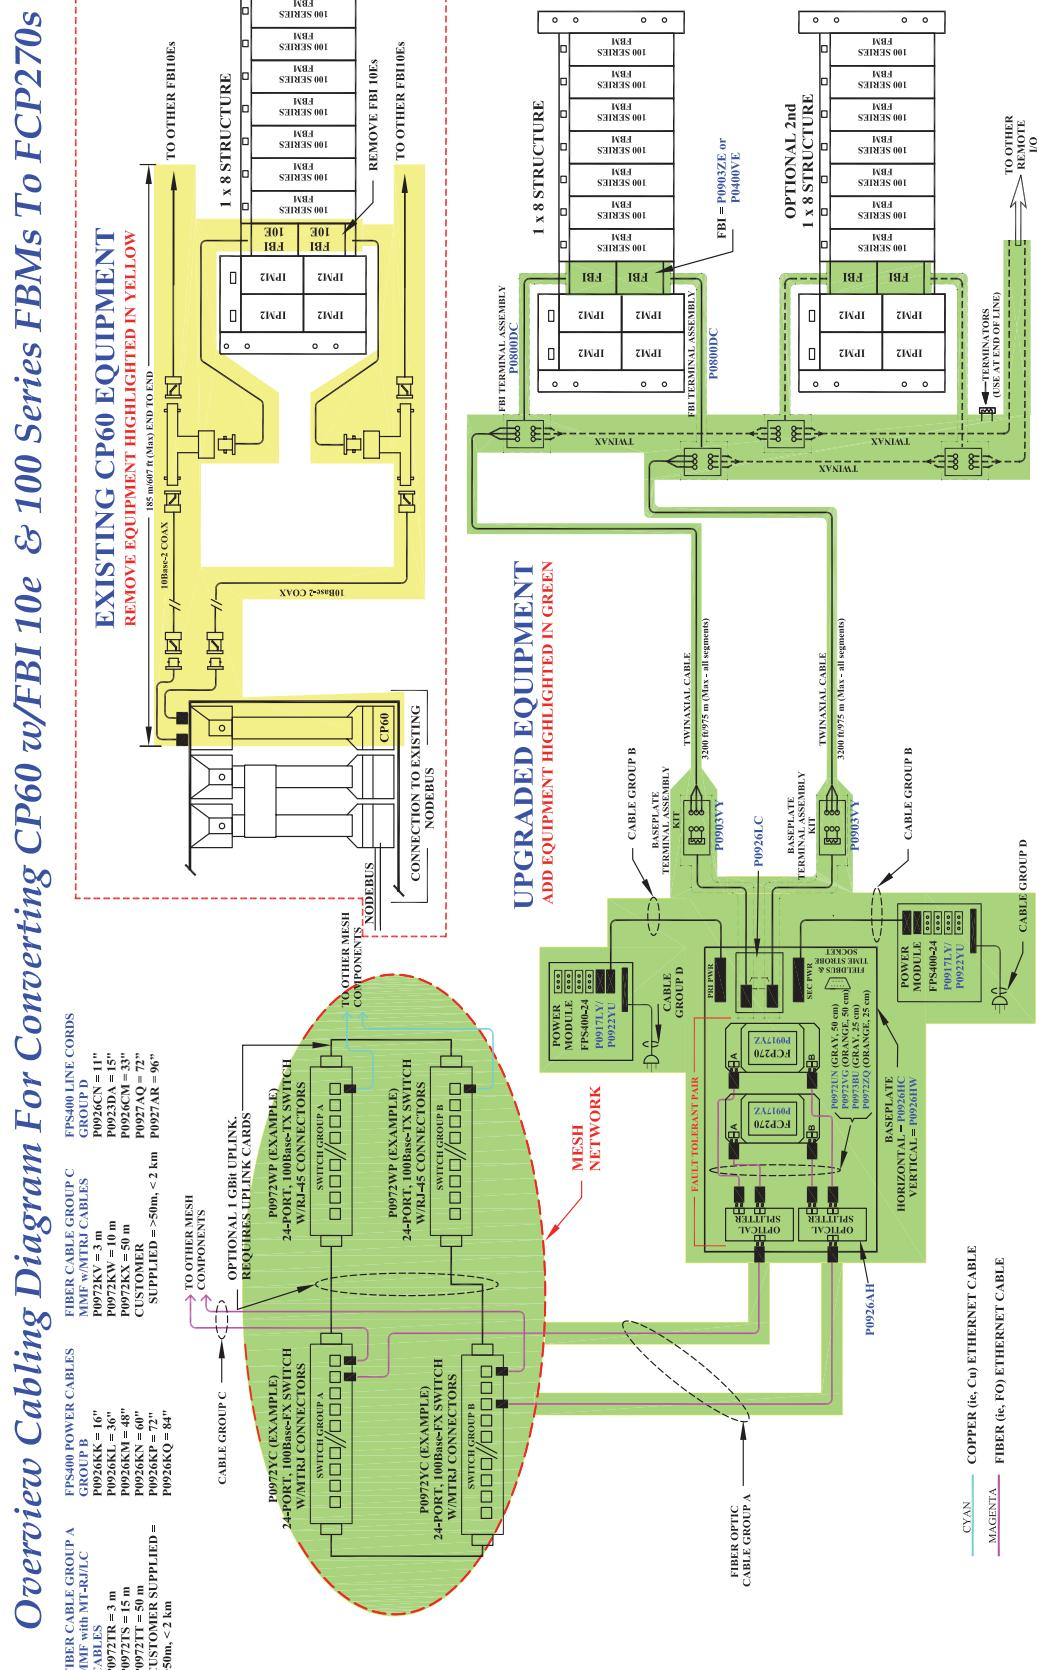

Figure A-6. Converting CP60 with FBI10E and 100 Series FBMs to FCP270s
- ◆ Figure A-6 “Converting CP60 with FBI10E and 100 Series FBMs to FCP270s” on page 89